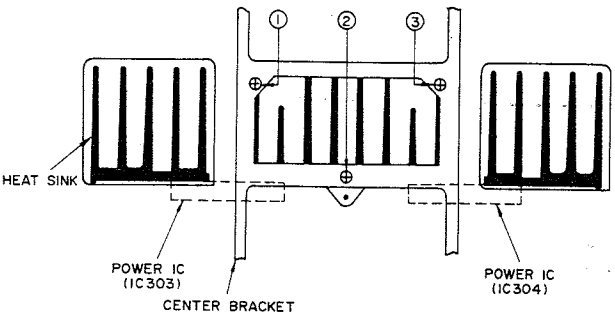

Fig. 5
2. Remove the 3 setscrews (① ~ ③ in Fig. 5) use to fasten the heat sink from the center bracket.